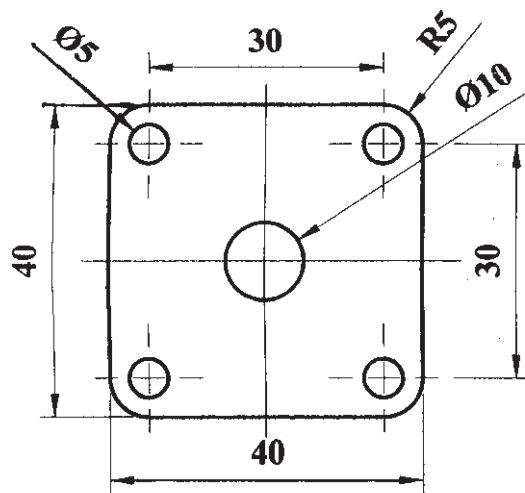

Fig. 2: Structural steel 1mm thick
- Draw assembly drawing with locating element of a progressive die for the component shown in fig 2. [8]